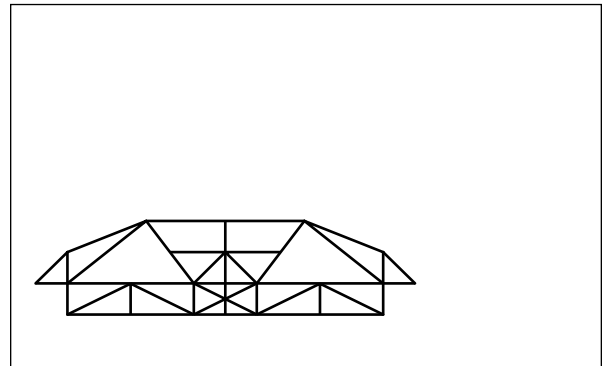

Figure 12 – Side view of the bridge drawn in bottom-left corner of grid sheet
1. On the large grid sheet provided, sketch the side view of the bridge to full scale. The side view is the one you would see if you were in a boat in the river and the bridge was in front of you (Figure 12).